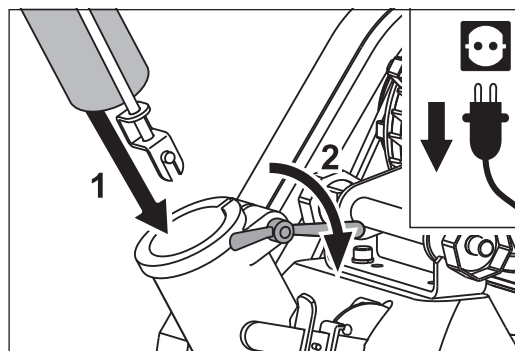

Fig. 2 Insert the guide tube into the opening in the machine housing (1). Tighten the wing nut (2).
- 2 Insert the guide tube into the opening at the back of the machine housing (Fig. 2, 1) and tighten the wing nut (Fig. 2, 2).